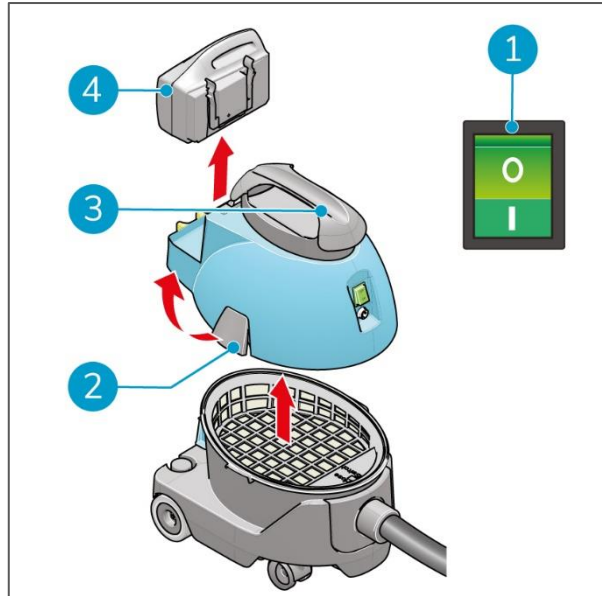

Figure 22
1. Turn off the i-vac 5B® with the ON/OFF switch (Figure 22, pos 1).
2. Remove the battery (Figure 22, pos 4).
3. Release the latches (Figure 22, pos 2).
4. Lift the head by the handle (Figure 22, pos 3).